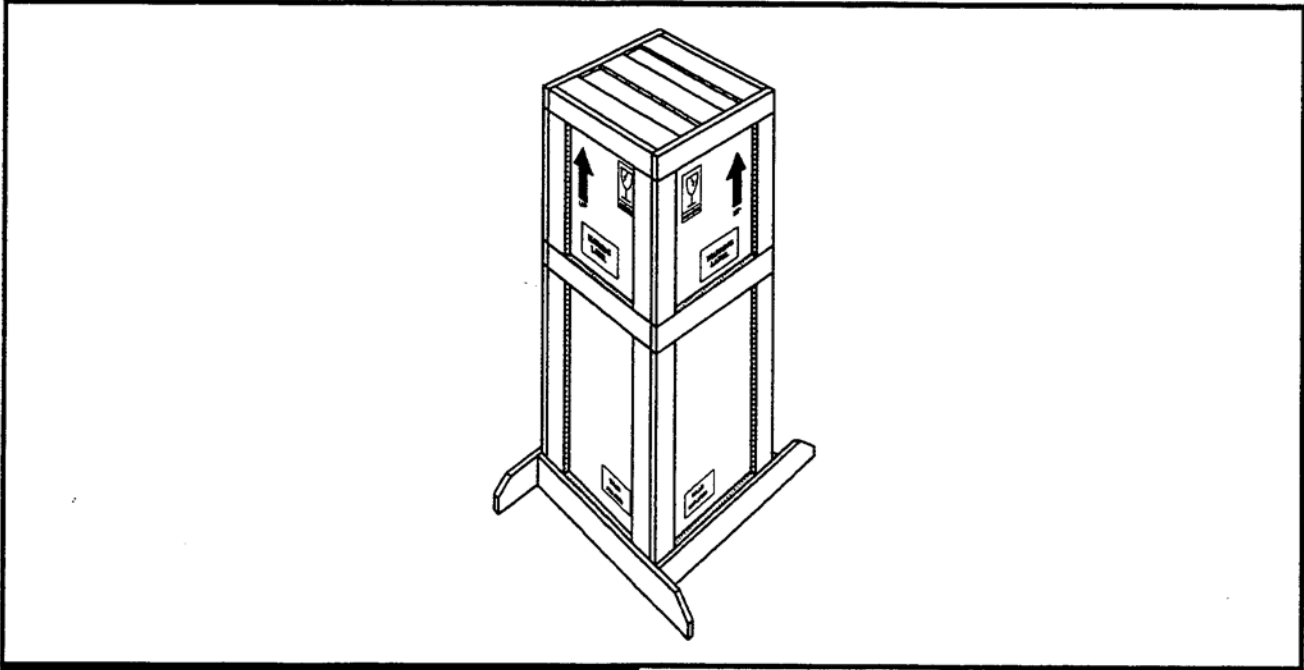

FIGURE 2-1: TUBE HEAD SHIPPING CONTAINER
- Step #1** Construct a wooden shipping carton for the Tube Head Assembly similar to the one in Figure 2-1. The carton must be built so that the top can be completely removed, facilitating packing and unpacking.